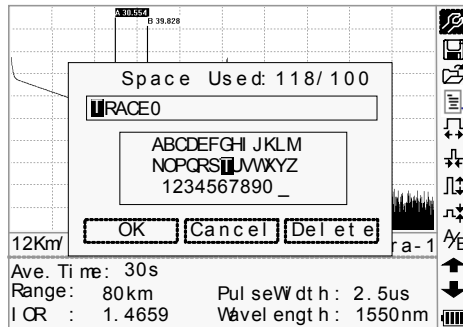

Figure 40.- Save Trace
Under GUI of figure 40, press , items in information window will switch to event list information.
- Under GUI of figure 40, use [] and [] to highlight  , and press [] to enter, as shown in figure 40.